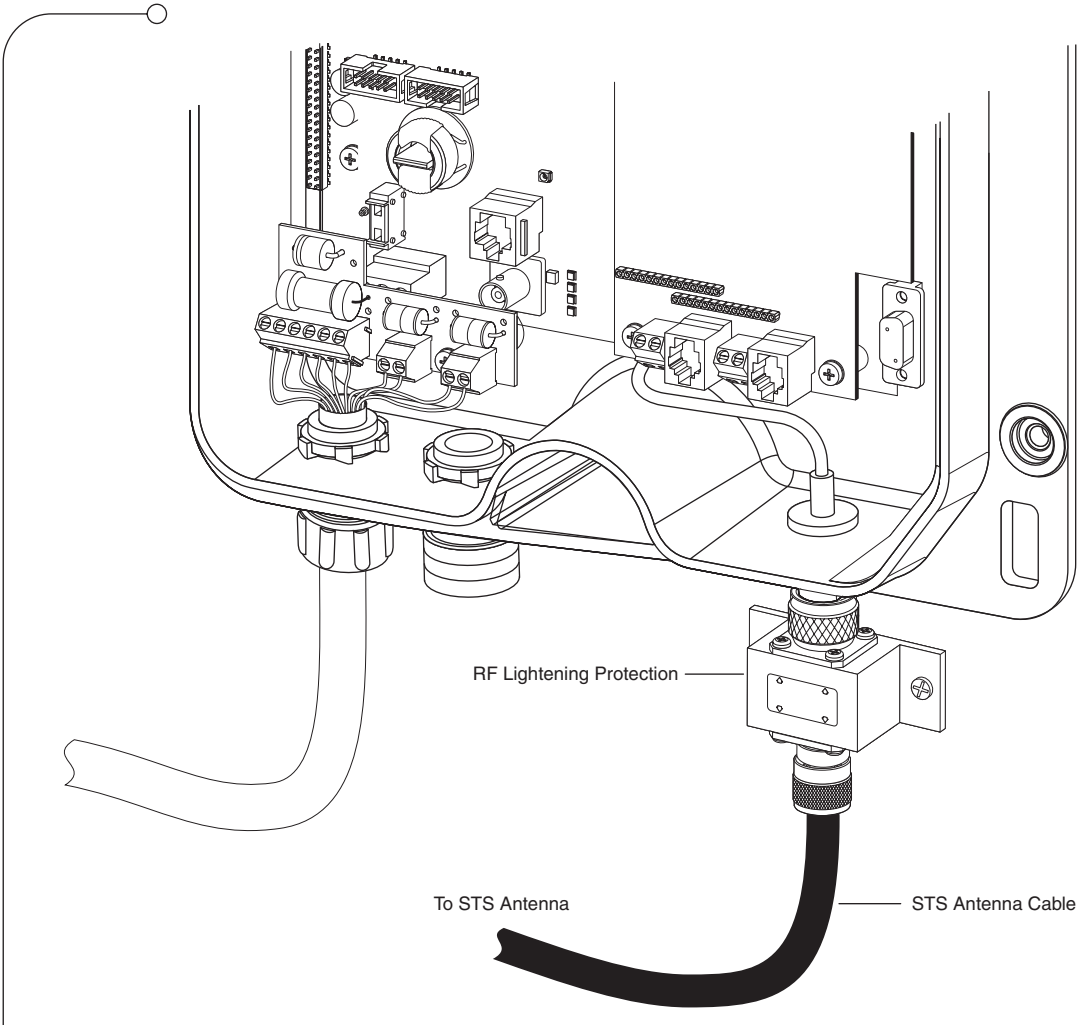

Figure 3.10 STS Antenna Cable Connection
1. Connect the female N-type connector of the RF Lightning Protection device to the N-type connector located at the bottom of the STS, as shown in Figure 3.10 on page 43.